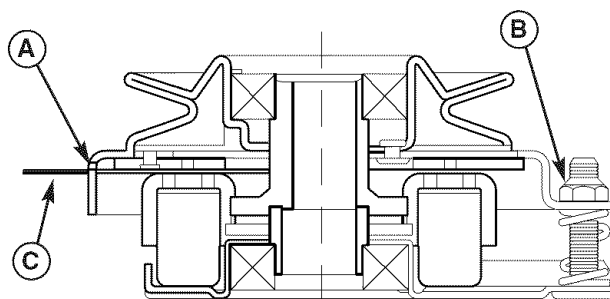

Figure 23. Adjust PTO Clutch
3. Insert a .012"-.015" (2,5-4mm) feeler gauge (C) through each window, positioning the gauge between the rotor face and the armature face as shown in Figure 23.